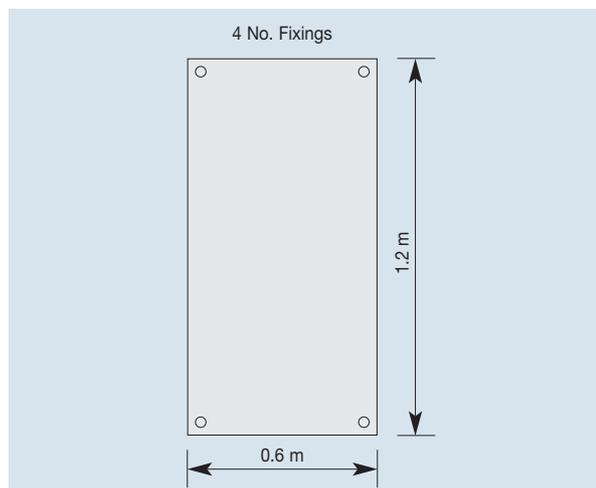

Figure 1 Typical Mechanical Fixing Pattern
Concrete decks should be clean, dry, without large projections, steps or gaps, and should be graded to allow correct falls to all rainwater outlets. To ensure an adequate bond between the vapour control layer and the concrete deck, the concrete or screeded surface should be suitably primed, in accordance with the specified manufacturer's instructions. The vapour control layer should be fully bonded to the deck and similarly the *Kingspan Therma*roof TR20 to the vapour control layer by laying into hot bitumen mopped or poured over the vapour control layer or with the use of suitable alternative proprietary adhesive systems. However, advice should be sought from the appropriate manufacturer of the adhesive system for their recommendations on the correct procedure for application rates and application temperatures. Alternatively the boards can be secured using mechanical fixing systems (see Figure 1). The boards should be laid break-bonded with all joints lightly butted.
*Kingspan Therma*roof TR20 should be fully bedded in hot bitumen or with the use of suitable alternative proprietary adhesive systems. However, advice should be sought from the appropriate manufacturer of the adhesive system for their recommendations on the correct procedure for application rates and application temperatures over a continuous vapour control layer, which has been nailed or fully bonded to the deck, with laps at the side and end sealed with either the use of hot bitumen or one the alternative proprietary adhesive systems as detailed previously. Alternatively the boards can be secured using mechanical fixing systems (see Figure 1). The joints should be break-bonded and the boards laid at right angles to the edge of the roof or diagonally across the roof. All joints should be lightly butted.
On woodwool slab decks, *Kingspan Therma*roof TR20 should be fully bedded in hot bitumen or with the use of suitable alternative proprietary adhesive systems. However, advice should be sought from the appropriate manufacturer of the adhesive system for their recommendations on the correct procedure for application rates and application temperatures over a continuous vapour control layer. Boards should be laid with their long edges at right angles to the slabs, or preferably diagonally across the roof. Alternatively boards can be secured using specialist mechanical fixing systems (see Figure 1). Board joints should not coincide with those of the slabs. The roof boards should be laid break-bonded, with all joints lightly butted.
The requirement for additional fixings should be assessed in accordance with BS 6399-2: 1997 (see Figure 1).